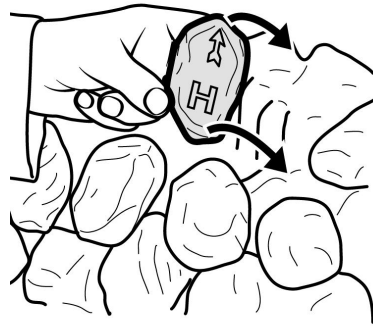

Figure 12. Third row "Coal H"
11. Hold coal 'H' upright with the arrow pointing to the top. Locate coal 'H' as shown in figure 12.